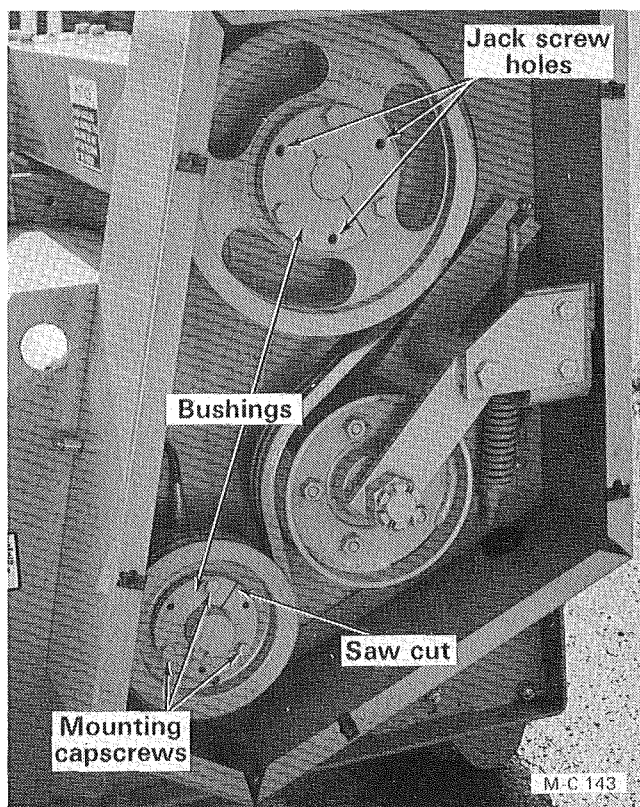

Figure 37
2. Remove the three mounting capscrews in the bushing, see Figure 37. Thread the capscrews into the three jack screw holes in the bushing. Tighten the three capscrews progressively and evenly until the bushing is loose on the shaft.